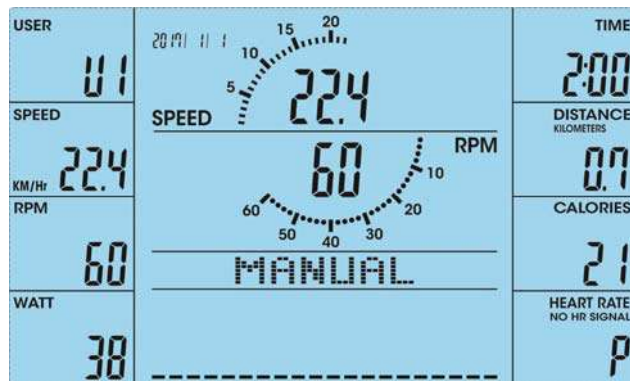

FIGURE 17
2. Press START/STOP to start exercising (FIGURE 17). The resist level is adjustable during exercising.
2. User may preset Target exercise data of TIME/DISTANCE/CALORIES/PULSE, and press START/STOP to start exercise. (FIGURE 17)